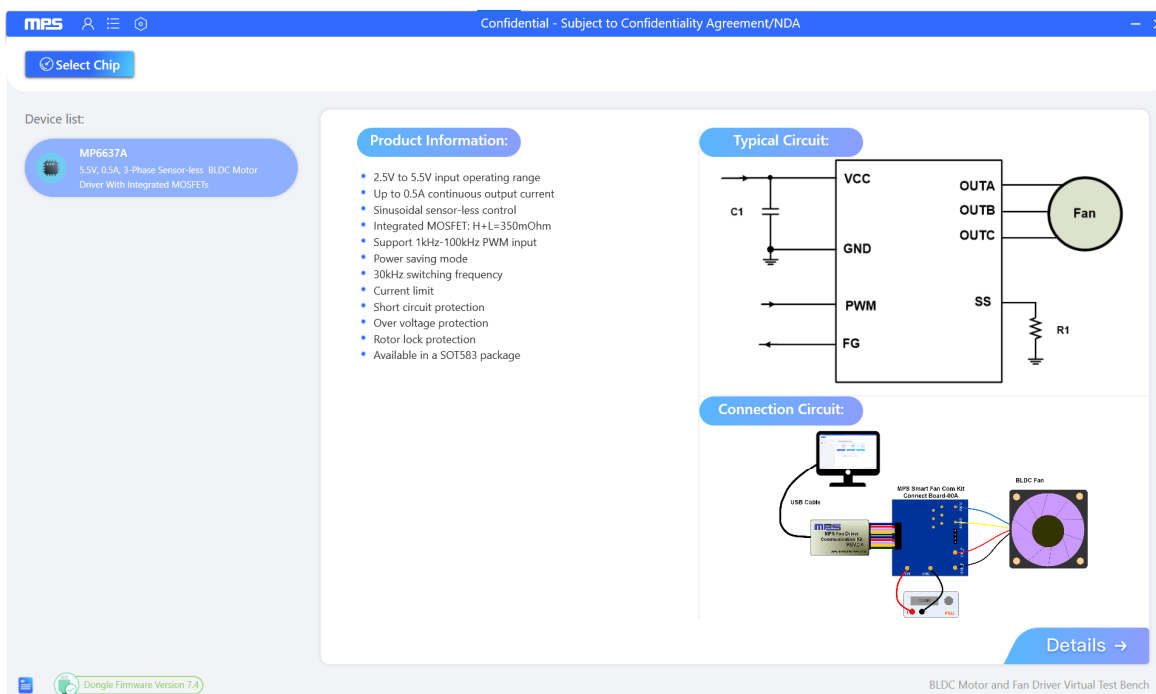

Figure 4: MPS BLDC Virtual Bench GUI Interface
3. Click “Details” to enter test mode for register configuration (see Figure 4).